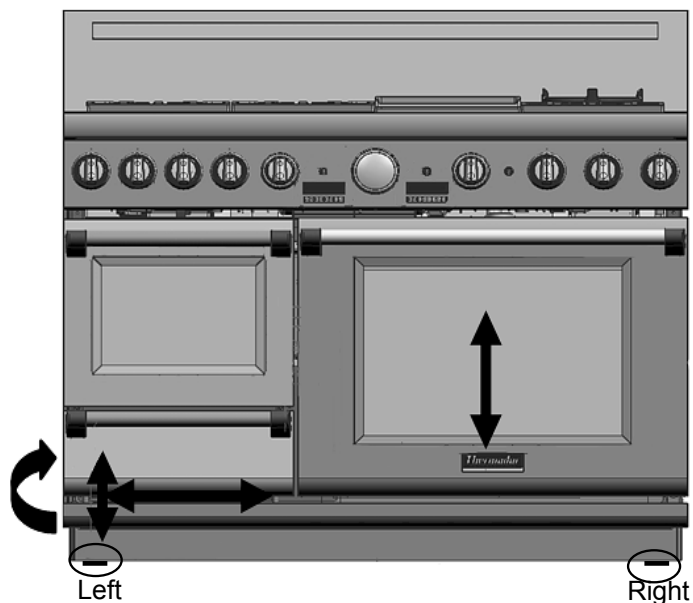

Figure 9: Door Alignment, 48" Steam with Warming Drawer
The range must be level for proper alignment of the oven doors. All models have a total of (4) leveling legs, one beneath each corner, that are threaded into the cast aluminum base structure (see *Figure 9 on page 11*).